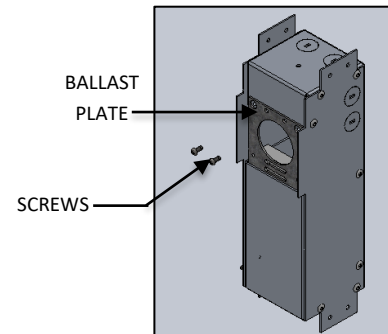

FIG. 7- DRIVER PLATE DISASSEMBLE
3. Remove the Screws securing DRIVER PLATE, and slide DRIVER PLATE out of J-BOX as shown in FIG. 7.